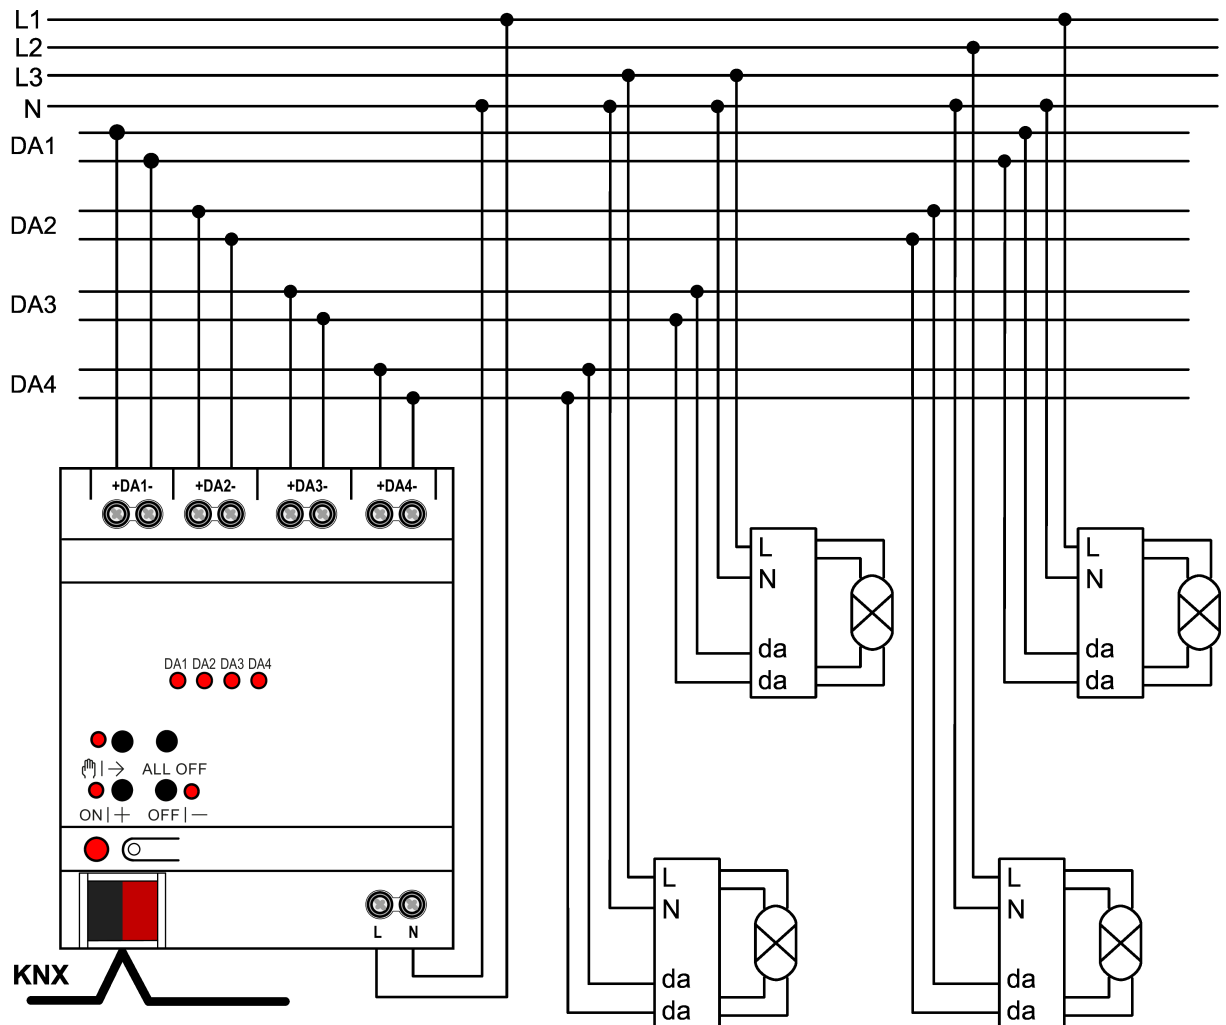

Figure 2: Connection example
- Connect device as shown in the connection example (see figure 2).